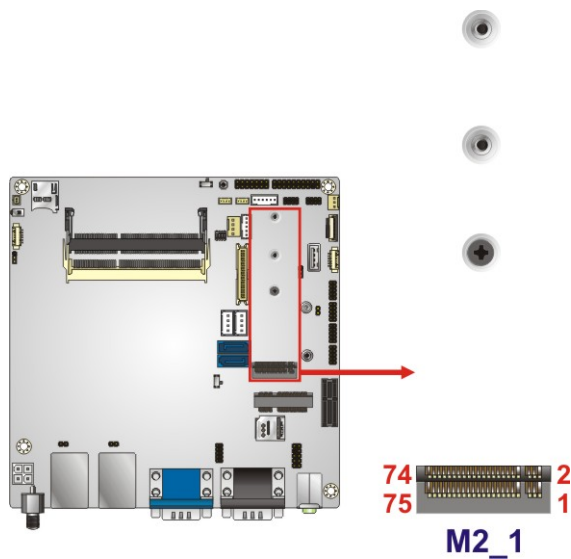

Figure 3-15: M.2 Slot Location
- CN Location:** See **Figure 3-15**